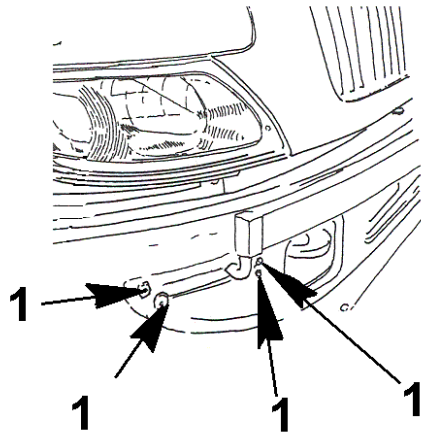

Figure 84 Safety Gate Motor Mounting Bolts
3. With safety gate arm removed, locate the four gate drive motor mounting bolts and nuts (Figure 84, Item 1).